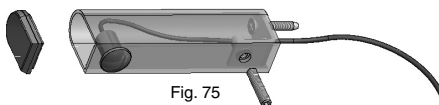

Fig. 75
- Put the aluminium section onto the support plaque fastened to the wall and block it by screwing the M5 dowel provided in the KIT (**Fig. 75**)